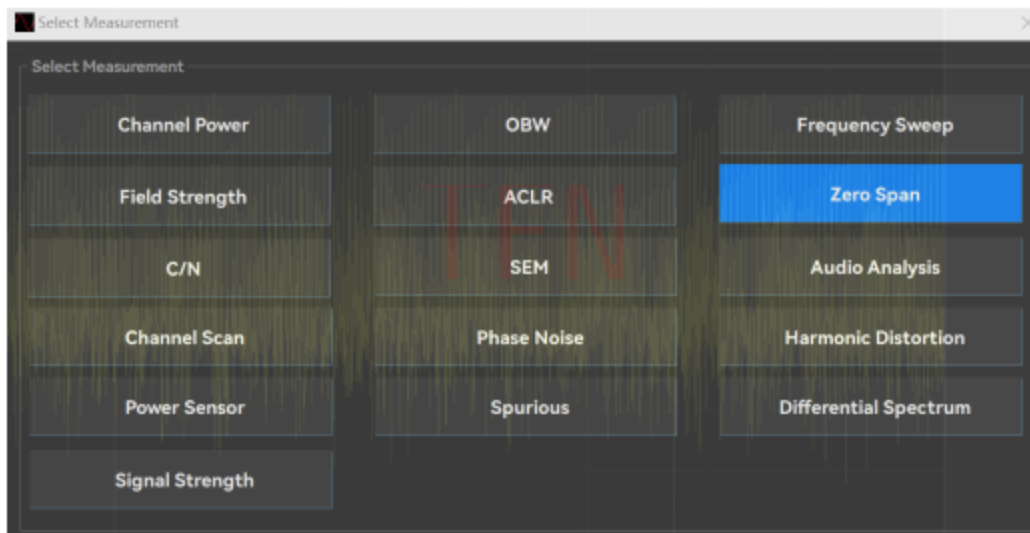

Figure 5.17 Select the measurement interface diagram
- Select the [zero frequency width] test function by [measurement], and the interface displays as shown in Figure 5.17: